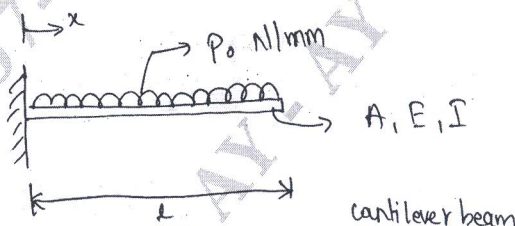

Fig. Q1 (b)
- b. Using Rayleigh Ritz method, derive an expression for the displacement of a Cantilever beam subjected to uniformly distributed load  $P_0$  over entire length as shown in Fig. Q1 (b). (12 Marks)